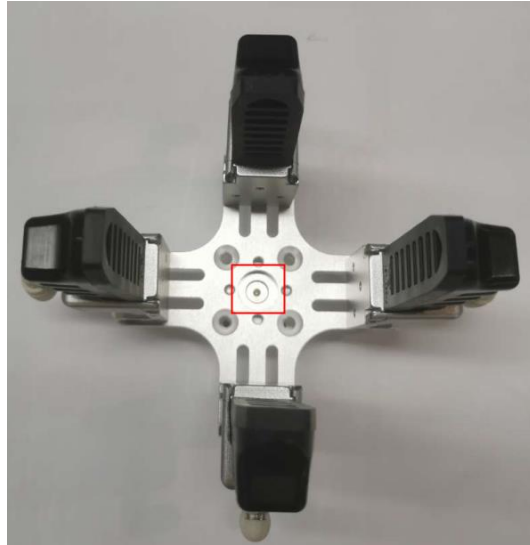

Figure 2.2 Install plugs
Step 2 Install plugs to Slide mounting plate-4S and tighten them, as shown in Figure 2.2.